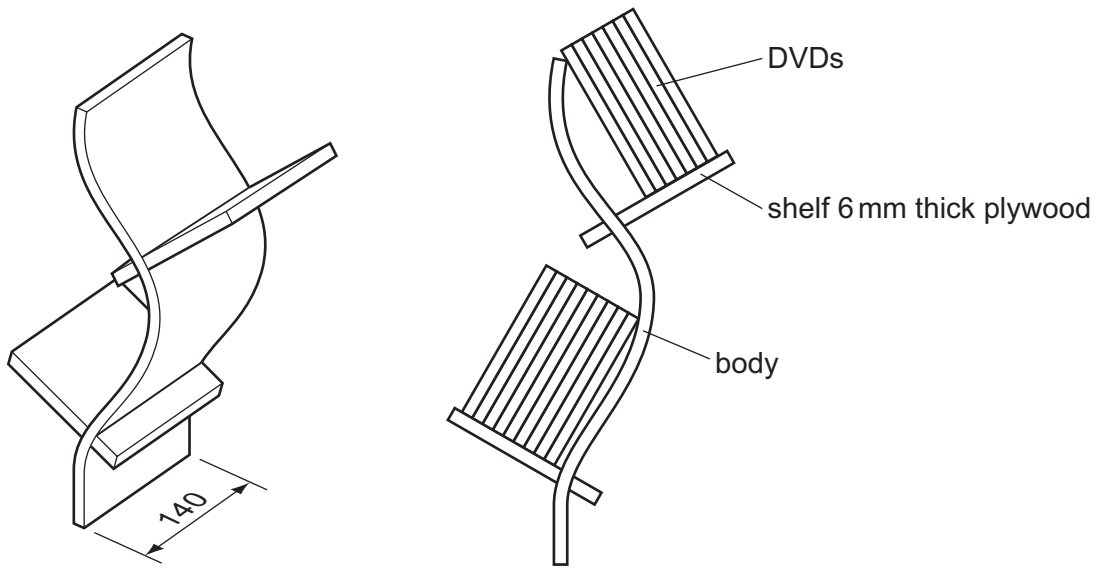

Fig. 10
- 13 Fig. 10 shows views of an incomplete design for a DVD holder. The body of the DVD holder is made by laminating three layers of 2 mm thick plywood.